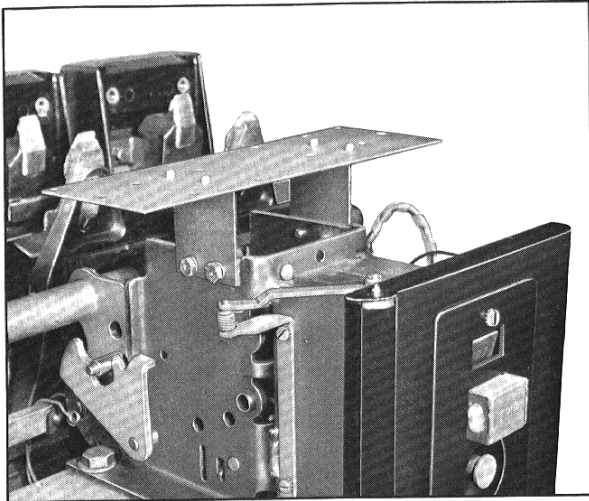

Fig. 31 Amptector Mounting Bracket
5. The amptector "mounting assembly" consists of a steel plate with two (2) .203 dia. holes, and two (2) 25-20 tapped holes, and two (2) "L" brackets riveted to it and 4" apart. Each "L" bracket has two .281 dia. holes, which line up with the newly .25-20 tapped holes when the assembly is fitted onto the breaker, Fig. 31, secure the assembly to the breaker mechanism, with the .203 dia. holes in plate towards the arc chutes, use .25-20 x .50 bolts, lock and flat washers. **Do not use longer bolts, as they will interfere with the mechanism linkages.**